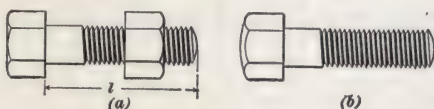

FIG. 43.
**96.** In *machine bolts*, or *bolts*, for short, one of which is shown in Fig. 43 (a), the shank and head are left rough, or just as they come from the bolt-heading machine. Machine bolts are regularly made in lengths varying by
half inches from  $1\frac{1}{2}$  to 8 inches. Above 8 inches and up to 20 inches the length varies by whole inches. The length of a machine bolt is always measured under the head, as the distance  $l$  in Fig. 43 (a).
**98.** *Capscrews*, one of which is shown in Fig. 43 (b), are bolts with either hexagonal or square heads; they have the shanks turned and the heads finished all over by milling and turning. Unlike machine bolts, they are usually furnished without nuts, unless especially ordered.